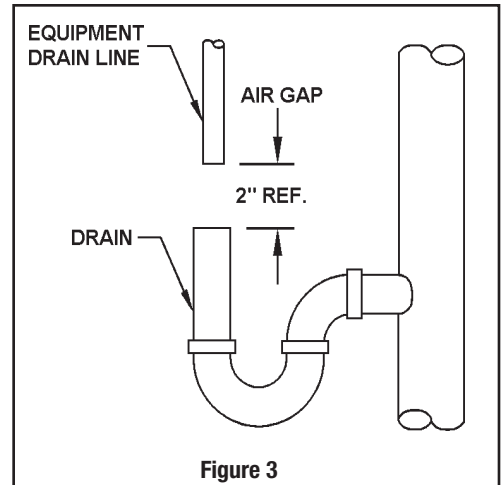

Figure 3
Step 8) Position DRAIN LINE over drain and secure firmly. To prevent backsiphoning of sewer water, provide an air-gap of at least 2" or 2 pipe diameters between end of drain hose and drain (Figure 3). DO NOT raise DRAIN LINE more than 10 ft. above floor.